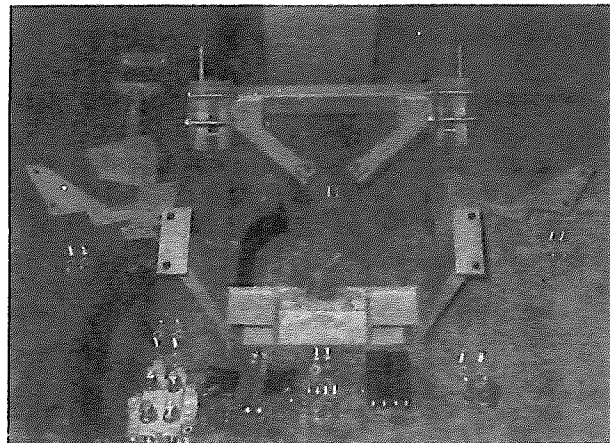

FIG. 2
1. Uncrate and identify mounting kit, valve and miscellaneous parts, Figure 2.